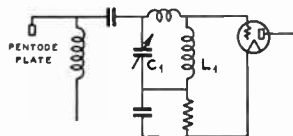

FIG. 2
• Two separate coils are used in Fig. 2 in order to allow an impedance match between a pentode plate circuit and a triode grid circuit, as well as providing a means of neutralizing. Coil L1 is coupled to the